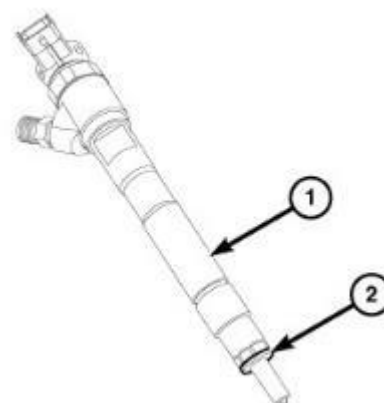

Figure 36 – Fuel Injector
47. Clean the bottom of the fuel injector bore with Brush, Injector Bore 9717 and **make sure the old copper sealing washer (2) is not stuck in the bore** (Figure 36).
53. Install a **NEW** sealing washer (2) onto the fuel injector (1) (Figure 36).